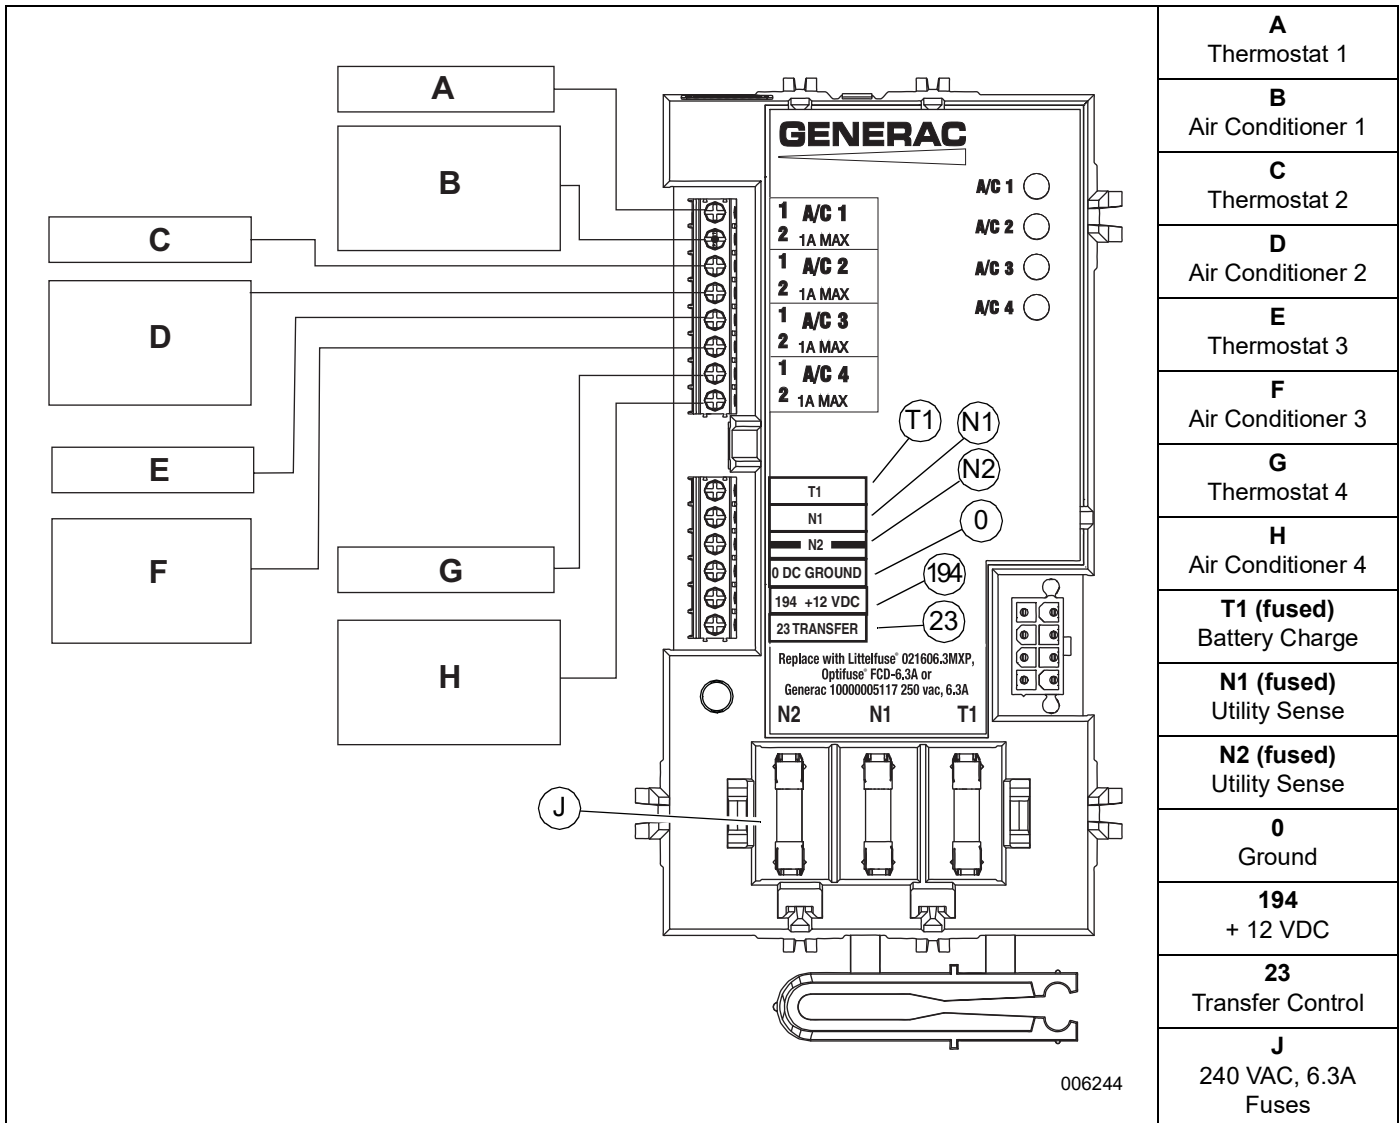

Figure 3-3. Typical SACM Connections
Control system interconnections consist of N1, N2, and T1, and leads 23, 0, and 194 (see Figure 3-3). The generator control wiring is a Class 1 signaling circuit. Reference instruction manual of specific engine generator for wiring connection details. Screw heads are straight bladed and cross-bladed, and should be tightened to 3.5 in-lb (0.4 Nm).
See **Figure 3-3**. The SACM can control an air conditioner (24 VAC) directly.
2. Connect the wire to the terminal strip terminals (A/C 1) on the SACM as shown in **Figure 3-3**. These are normally closed contacts which open upon load shed conditions. Route thermostat wire away from high voltage wires.